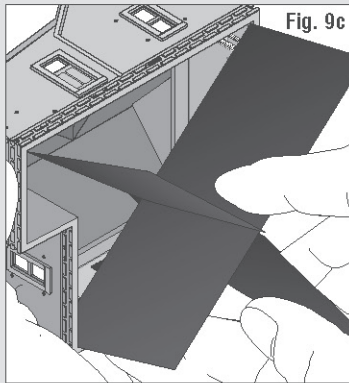

Fig. 9c
- Insert into building (Fig. 9c).